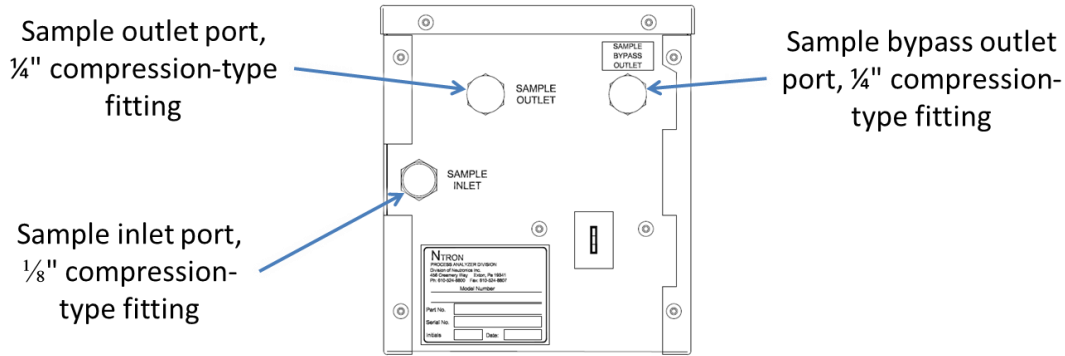

Fig. 4, Front view
The sample inlet port is a 1/8" tube compression bulkhead fitting in the RSM chassis for pneumatic interfacing with the measured process (see Figure 4). It is the single sample gas inlet to the RSM.
The sample outlet port is a 1/4" tube compression bulkhead fitting in the RSM chassis (see Figure 4). It is the low volume exhaust line, supplied by the flow-controlled sensor stream in the RSM. It should be connected to a suitable vent location.
The sample outlet port is a 1/4" tube compression bulkhead fitting in the RSM chassis (see Figure 4). It is the high volume exhaust line, supplied by the bypass stream in the RSM. It should be connected to a suitable vent location.
Connect the sample gas inlet tubing from the process to the  $\frac{1}{8}$ " compression bulkhead fitting marked "SAMPLE INLET" (see Figure 4).
- ▶ Locate the sample inlet tubing connection on the chassis (see Figure 4).
Connect the sample gas outlet tubing to the  $\frac{1}{4}$ " compression bulkhead fitting marked "SAMPLE OUTLET" (see Figure 4).
- ▶ Locate the sample outlet tubing connection on the chassis (see Figure 4).